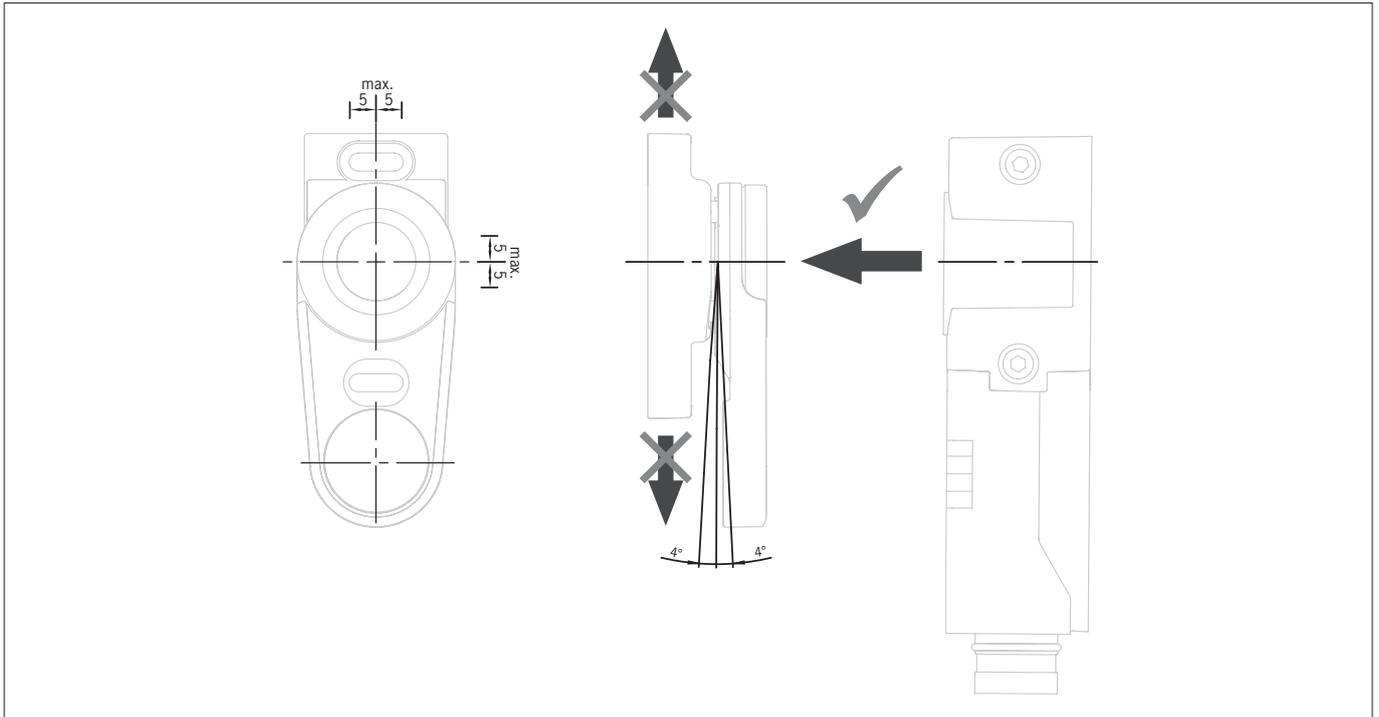

Fig. 3: Approach direction, maximum center offset and maximum actuator angle
- › When the safety door is opened, the actuator must be moved away from the switch toward the front (see Fig. 3: Approach direction, maximum center offset and maximum actuator angle on page 11).